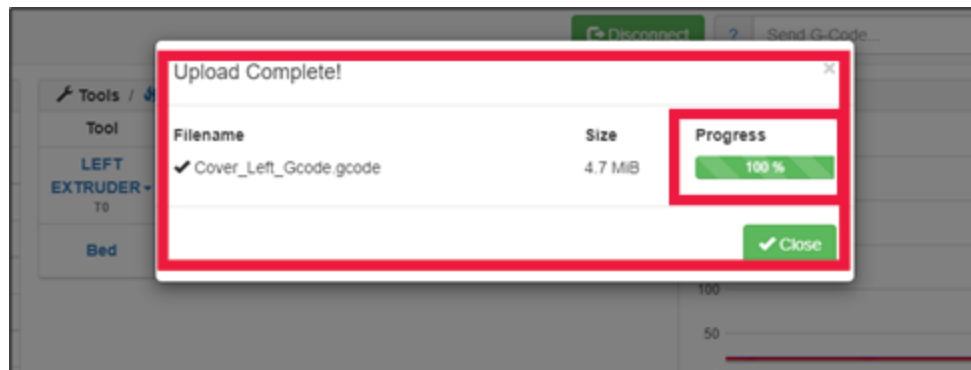

Figure 75: Upload Complete
4. Once the card is loaded, press the microSD card button on the home page of the carver's HMI control screen, as seen in Figure 75.